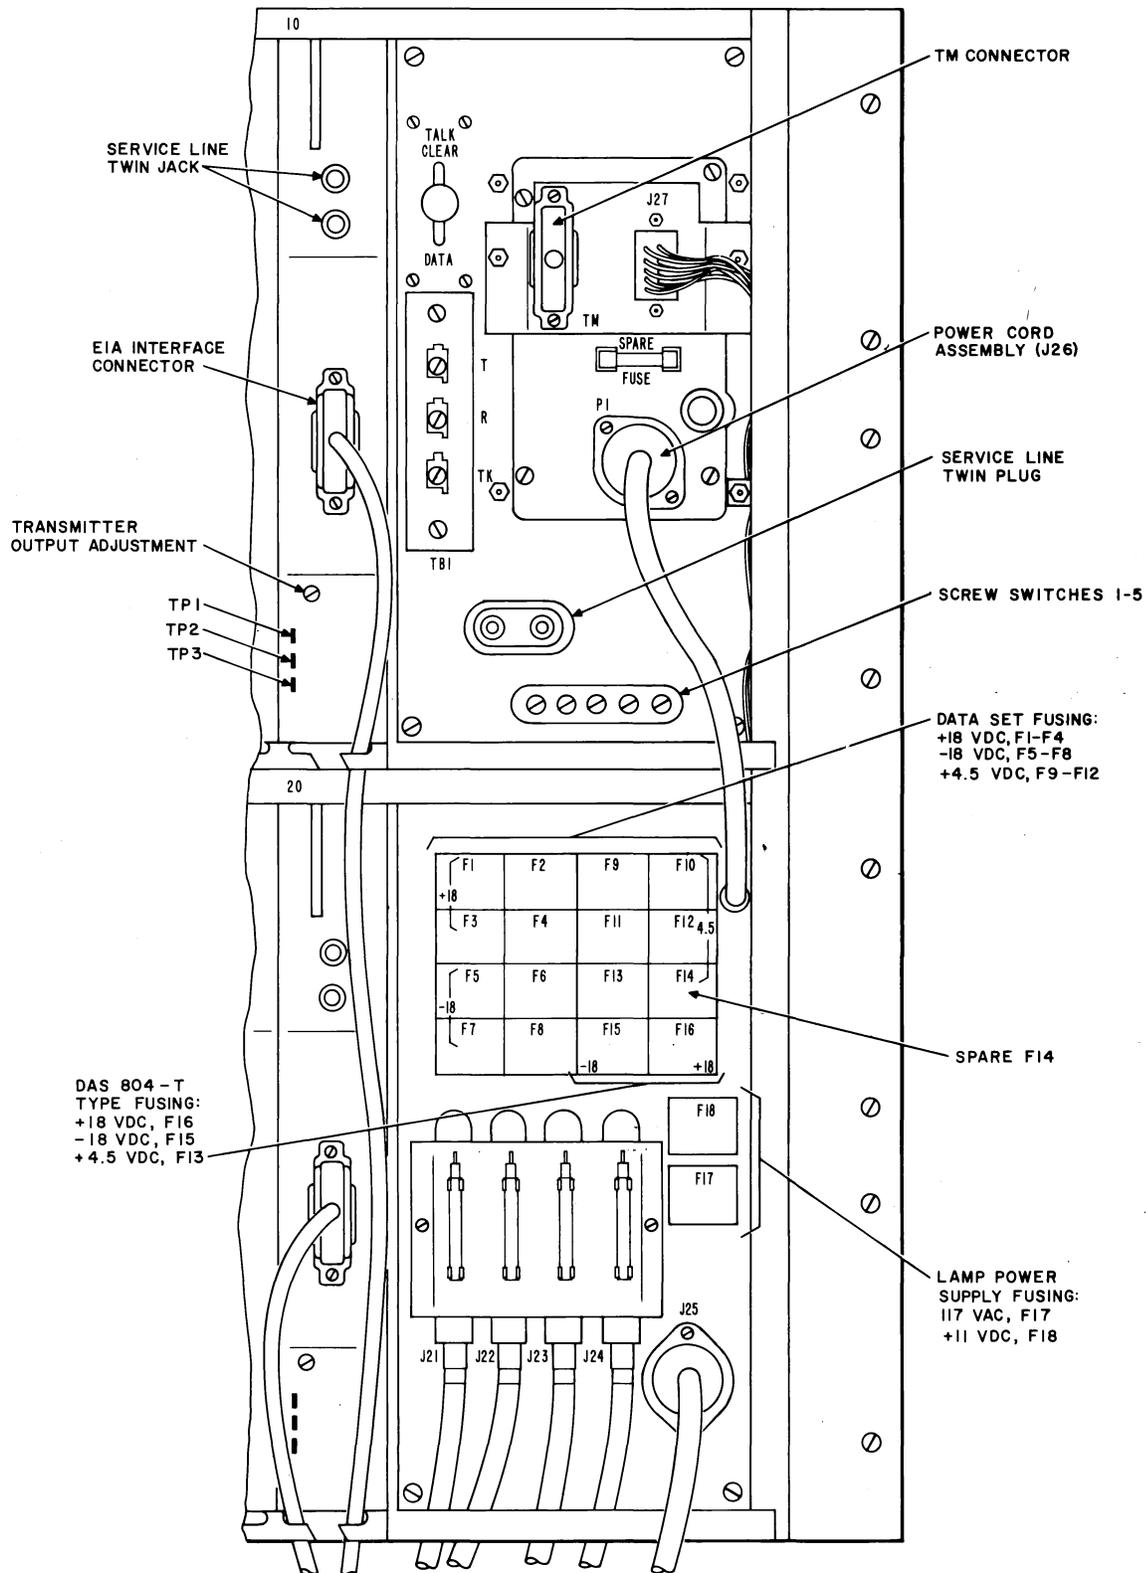

Fig. 10—32A1 Data Mounting—Enlarged View of Right Side
- (1) Connect the TM connector (Fig. 10) to the interface connector on the data set in place of the computer interface connector.